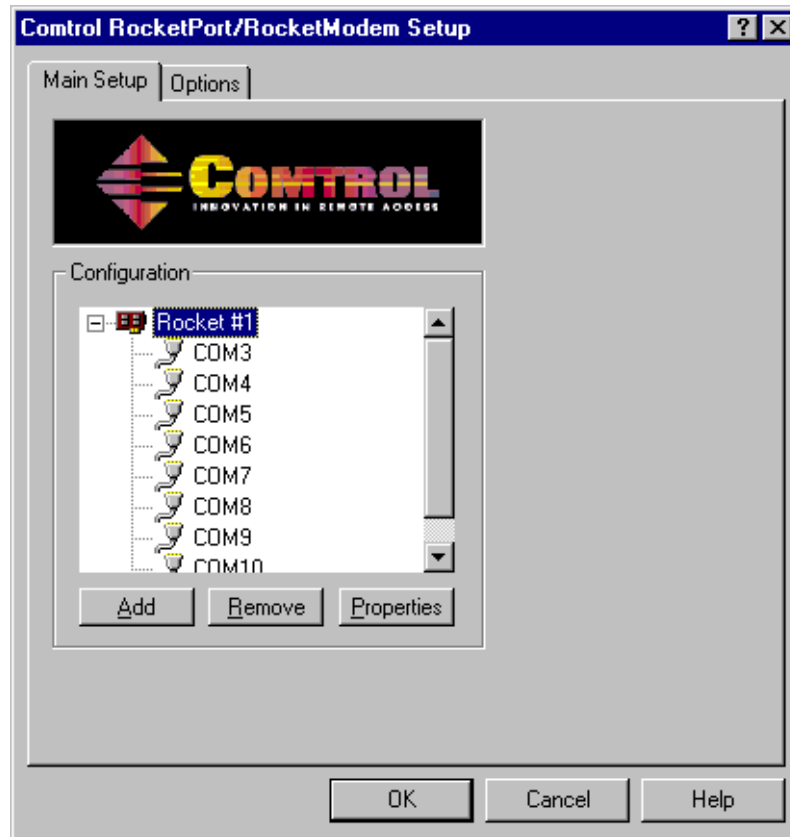

Figure 10. Choose the Options tab.
14. Choose the Options tab in the Control RocketPort/RocketModem Setup dialog box (see Figure 10).